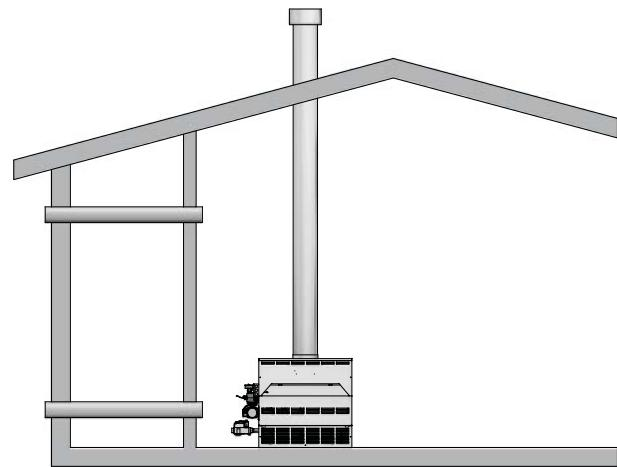

Figure 1-4_Combustion Air Through Ducts
2. If combustion and ventilation air is taken from the outdoors using a duct to deliver the air to the room where the appliance is installed, each of the two openings should be sized based on a minimum free area of one square inch per 2000 Btu/hr (11cm^2 per kW) (see FIG. 1-4).